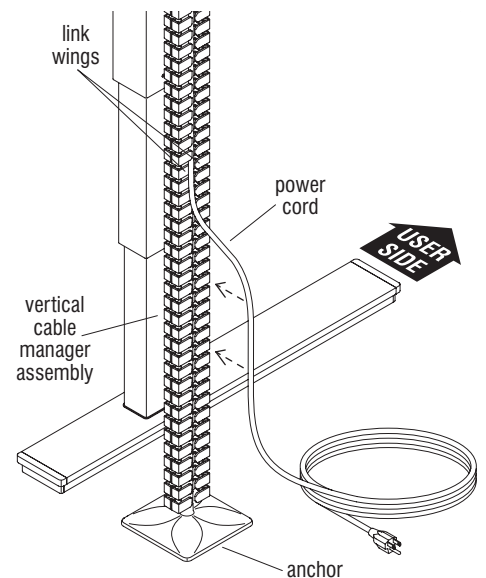

Figure 6
6. Working from the top of the vertical cable manager assembly and down, insert the power cords into each link by pressing the cords in, between the link wings. Once the desired amount of cords have been inserted, slide cable down through the link assembly (Figure 6).